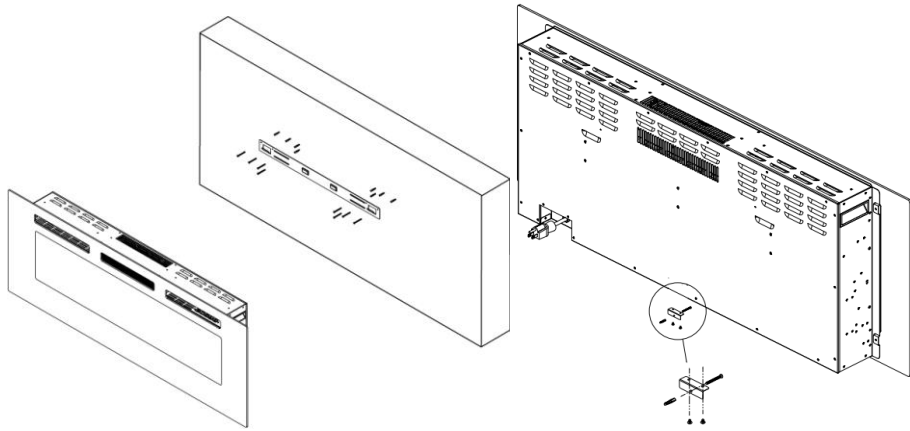

Fig.4
- Put the crystal to the white boarder, then gently bring the heater down against the wall, see fig.4
- Place the front glass surround over the front of the fire aligning the slots in the bracket at each side of the glass panel with the lugs on the sides of the fire; See Fig.4